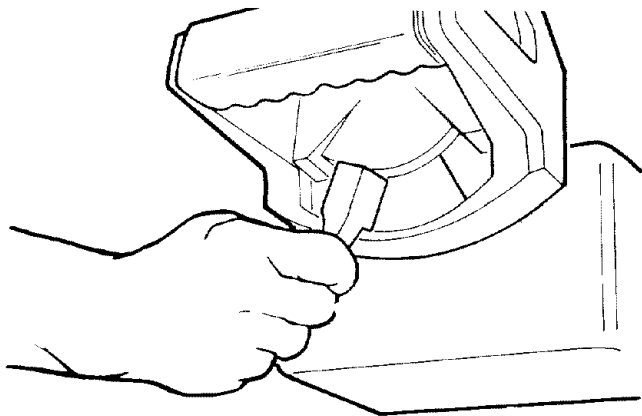

Fig. 177 - Bevel Lock - Locked
2. Position the motor at approximately  $30^{\circ}$  bevel angle and lock *bevel lock*. (Figure 177)